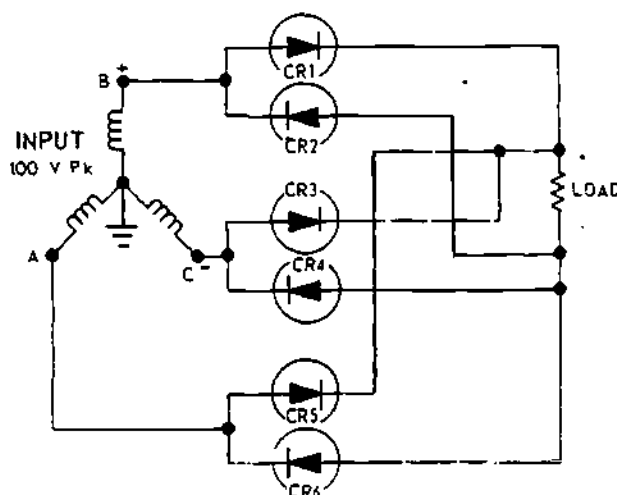

Figure 34-4. Three-Phase Full-Wave Rectifier
7. Calculate the peak output voltage for the circuit in figure 34-4.
8. Trace the current path through the circuit in figure 34-4 when terminal "B" is positive (+) and terminal "C" is negative (-).
9. Draw the output waveform for all three phases of the rectifier shown in figure 34-4. Label the minimum and maximum (peak) voltages.